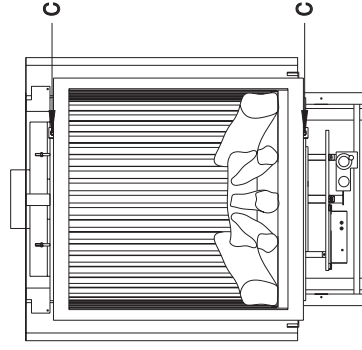

fig. 11
3. To open the door, remove the screws C (see fig. 11). The door opening is limited; if you need more space then remove the door (lift and pull forward). Be sure that there are no fingerprints on the glass. It is not possible to remove those prints after you burn the appliance for a while (they are burnt in).